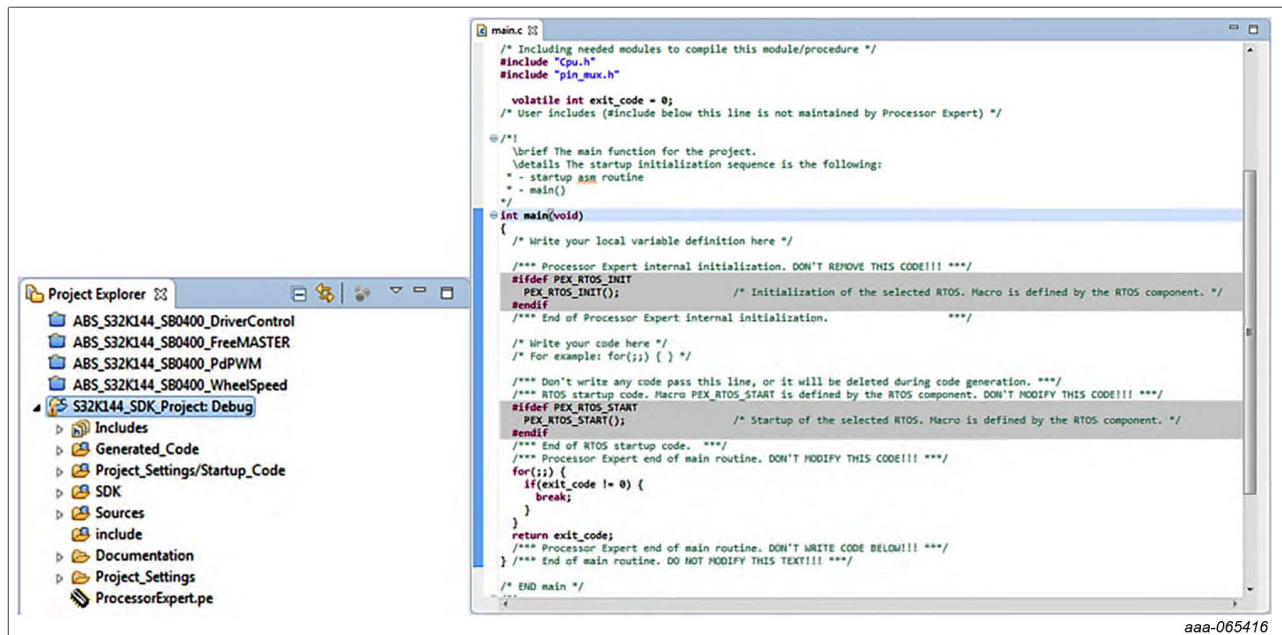

Figure 10. Created S32DS Project in S32DS Project Explorer and main.c template.
4. Figure 10 shows the Project Explorer panel and `main.c` content after creation of a new project.